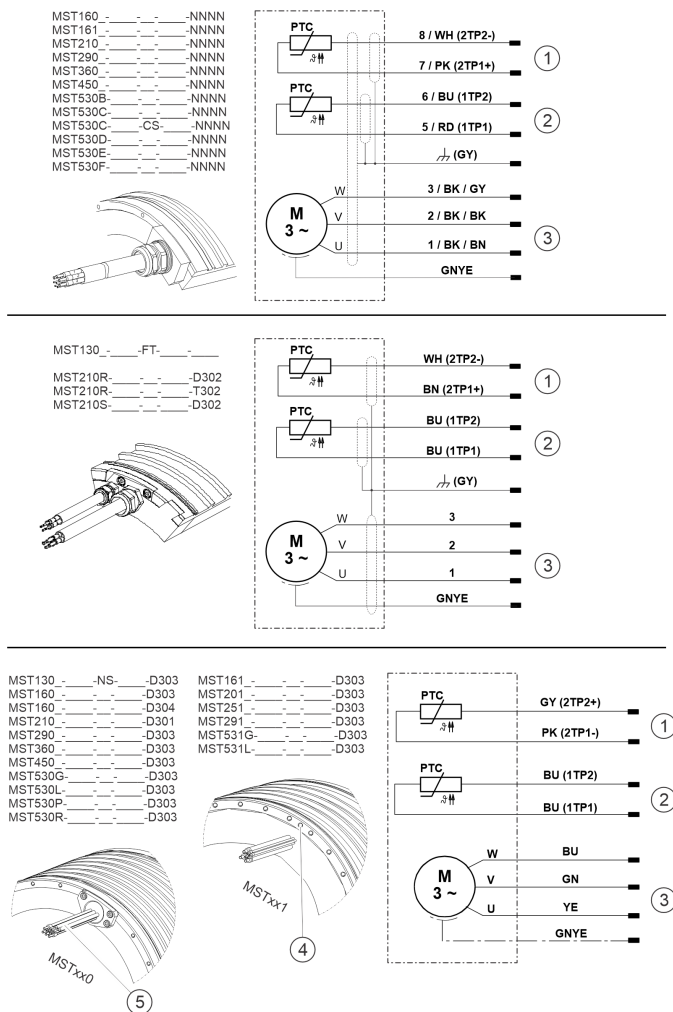

Fig. 24: Wire identification at stators with connection cable
- 1) For the amount of stranded wires refer to Fig. 24.
- ① Total shield connection via cable clamp of strain relief in the cable gland
- ② For temperature sensor for motor protection refer to Fig. 24
- ③ Temperature sensor for external temperature measuring see Fig. 24